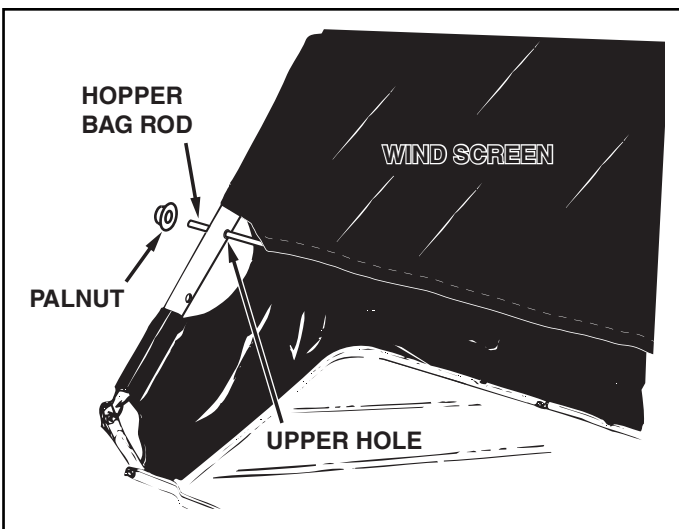

FIGURE 16
- Insert the hopper bag rod through the **upper hole** in the upper hopper tubes and the through the stitched sleeve at the front of the wind screen. See figure 16.
- Assemble two palnuts by lightly tapping them onto the ends of the pivot rod with a hammer. See figure 16.